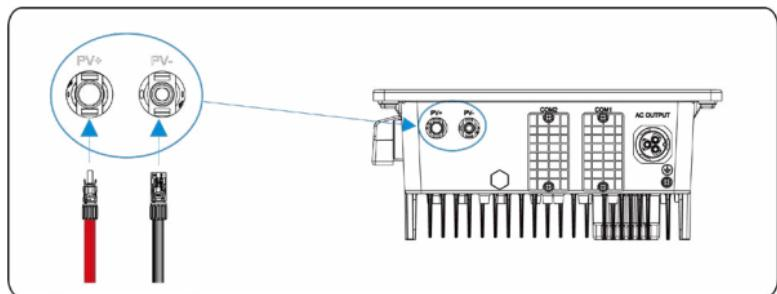

Figure 5.15 Connecting to the inverter
**Step 6** Insert the positive and negative connectors into their corresponding terminals of the inverter until a “click” sound is heard, as shown in **Figure 5.15**.